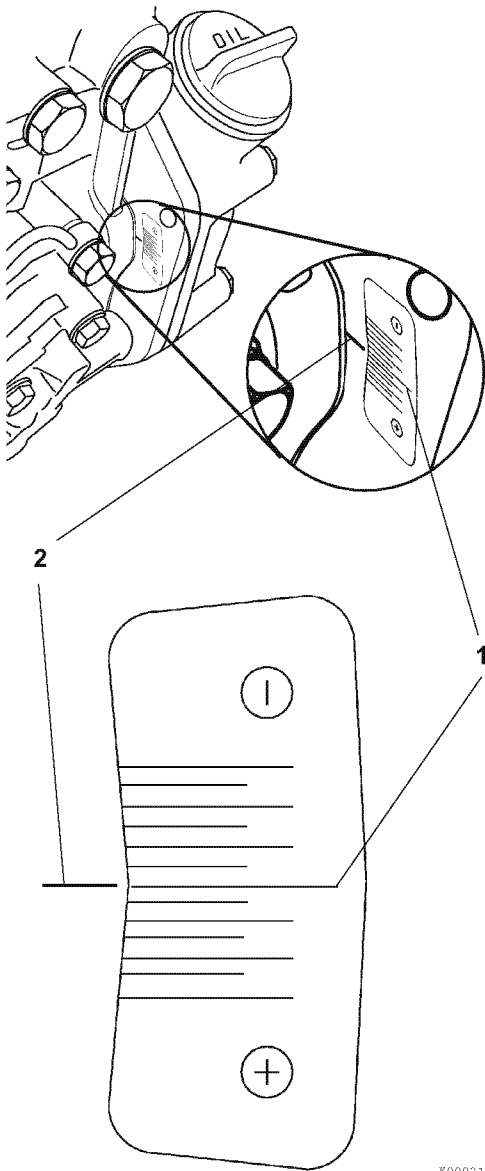

Figure 7-21
- Apply the timing grid sticker, which is provided with the new injection pump, onto the back of the gear case/gear case flange. Align the “Standard mark” (1, **Figure 7-21**) with the reference mark (2, **Figure 7-21**) made on the gear case during disassembly.